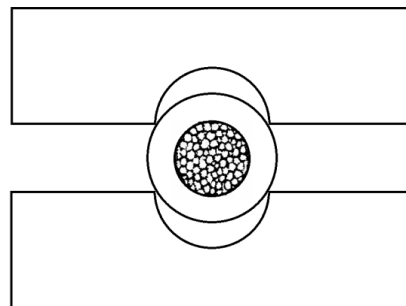

Figure 3: first contact between dies and fittings.
- Close the die blocks approximately one-half of the distance between first contact and fully closed (See Figures 3 and 4).